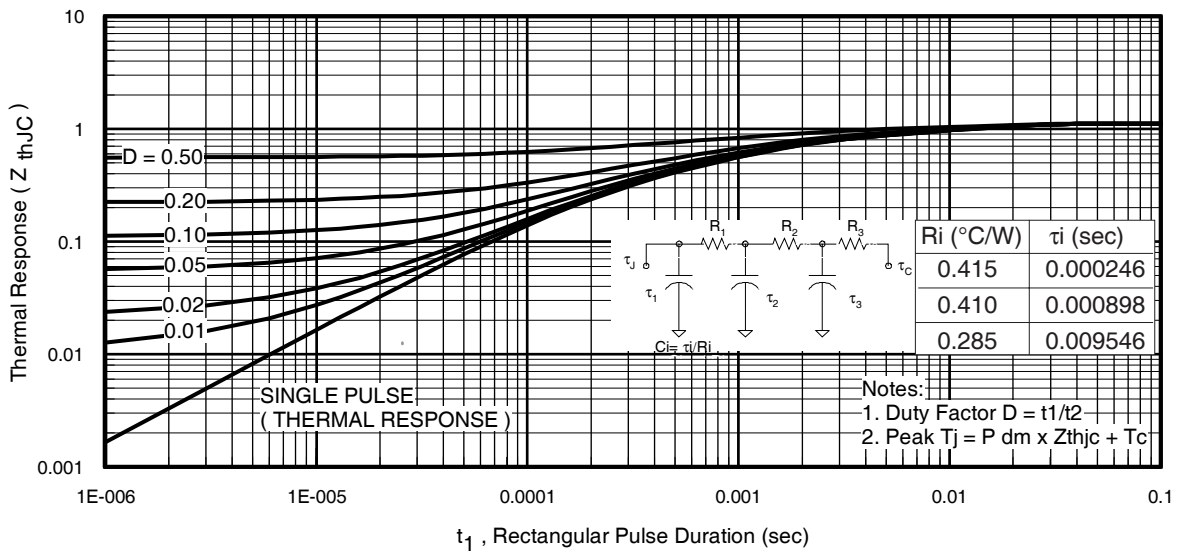
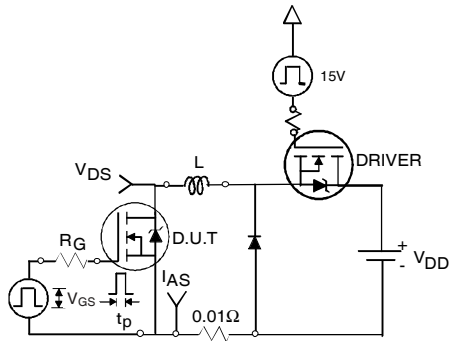

Fig 11. Maximum Effective Transient Thermal Impedance, Junction-to-Case
Fig 12a. Unclamped Inductive Test Circuit
| I_{AR} | Avalanche Current ① | See Fig.12a,12b,15,16 | A |
- ① Repetitive rating; pulse width limited by max. junction temperature. (See fig. 11).
- ② Limited by T_{Jmax} , starting $T_J = 25^\circ\text{C}$, $L = 0.077\text{mH}$, $R_G = 25\Omega$, $I_{AS} = 51A$, $V_{GS} = 10V$. Part not recommended for use above this value.
- ③ $I_{SD} \leq 51A$, $di/dt \leq 260A/\mu s$, $V_{DD} \leq V_{(BR)DSS}$, $T_J \leq 175^\circ\text{C}$.
- ④ Pulse width $\leq 1.0\text{ms}$; duty cycle $\leq 2\%$.
- ⑤ $C_{oss\ eff.}$ is a fixed capacitance that gives the same charging time as C_{oss} while V_{DS} is rising from 0 to 80% V_{DSS} .
- ⑥ Limited by T_{Jmax} , see Fig.12a, 12b, 15, 16 for typical repetitive avalanche performance.
- ⑦ This value determined from sample failure population. 100% tested to this value in production.
- ⑧ This is applied to D²Pak, when mounted on 1" square PCB (FR-4 or G-10 Material). For recommended footprint and soldering techniques refer to application note #AN-994.
3. Equation below based on circuit and waveforms shown in Figures 12a, 12b.
$Z_{thJC}(D, t_{av})$ = Transient thermal resistance, see figure 11)